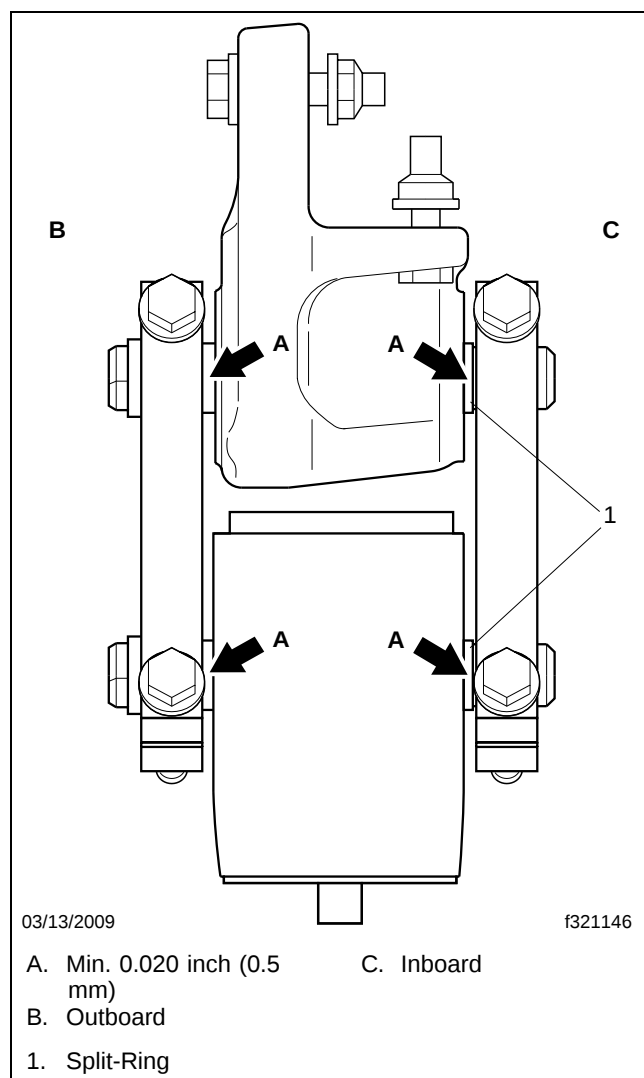

Fig. 3, View from Rear of Spring Looking Forward
17.1 Using the threaded spring pin, center the lower rear spring pin in the shackle bracket. The gap on each side should be within 0.080 inch (20 mm) of the other side. The minimum gap on each side is 0.020 inch (0.5 mm). See **Fig. 3**.